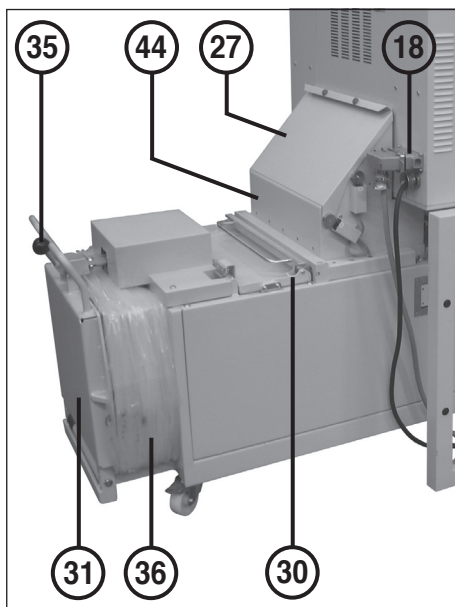

fig. 2
If the space in the hopper (44) (fig. 2) is completely filled with cutting material due to a jam in the filler hole of the baler, the machine switches off when the cover flap (27) is raised (fig. 2). The display (13) „Jam outlet“ **flashes**.